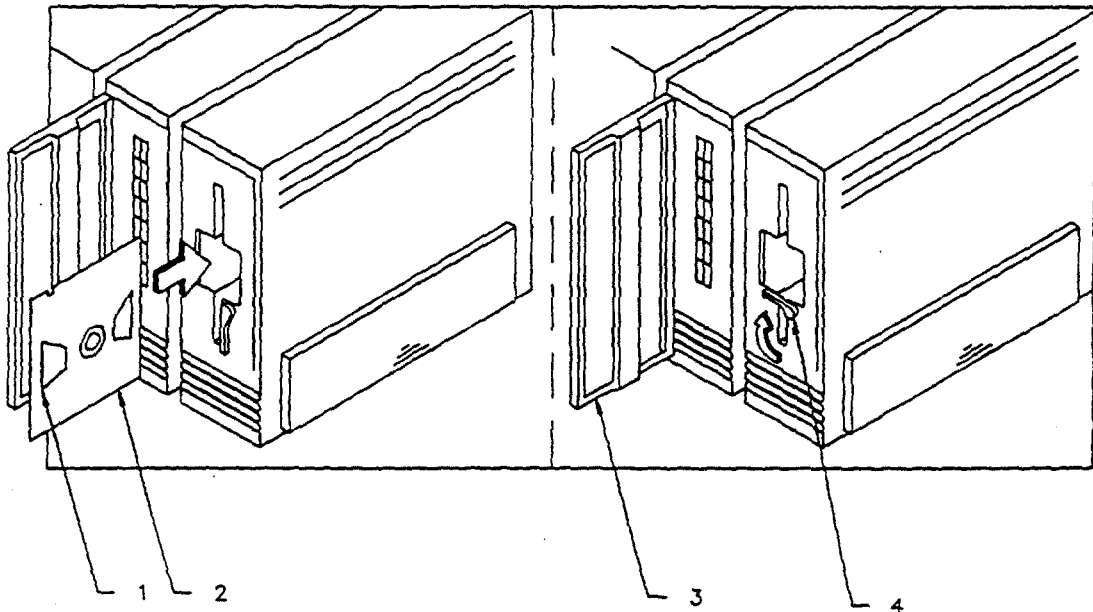

Figure 2-4. Cleaning the Drive Head
- a. See Figure 2-4. If the cleaning kit has never been used, remove the two triangular inserts (1) from the cleaning diskette (2).
- c. Open the floppy diskette drive door (3) and insert the cleaning diskette. Rotate the locking lever (4) and the diskette drive will activate.